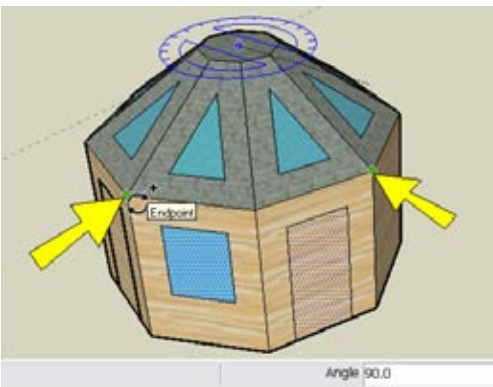

Figure 1-53
- Because you are copying both faces at once, the rotation will be double what it was previously. Click two corner points that are 90 degrees apart (Figure 1-53).